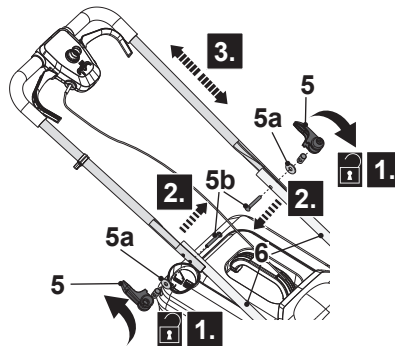

Fig 13
- Hold the upper handle bar (4) with one hand.
- Release the clamp levers (5) anti-clockwise (Fig. 13, step 1) on both side of the upper handle bar (4), then take off the clamp lever (5), the washer (5a) and the mounting bolt (5b) afterwards (Fig. 13, step 2).
- Choose and align the other mounting hole on the upper handle bar (4) with the mounting hole of the lower handle bars (6) (Fig. 13, step 3).